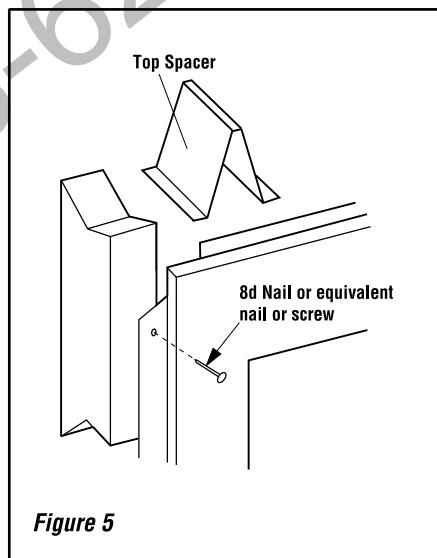

Figure 5
Step 3. Fireplace should be secured to side framing members using the full length nailing tabs at the top and bottom of the fireplace front face. Use 8d nails (see **Figure 5**).